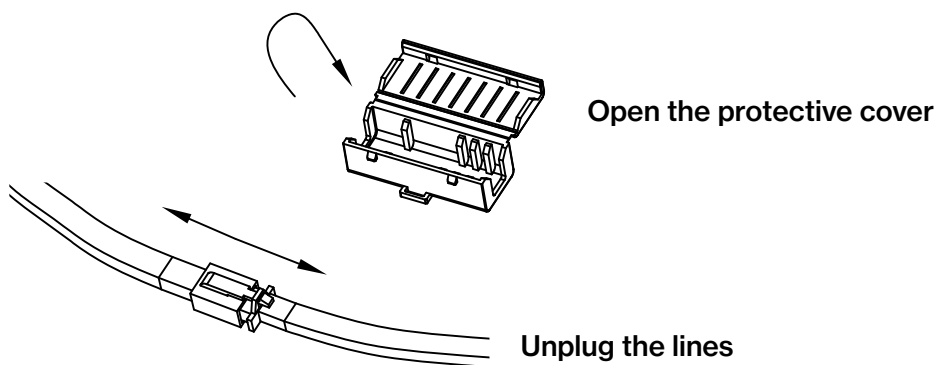

Fig. 15
- Slide out the front panel for easier access and remove the two aluminium mesh filters (Fig. 15).